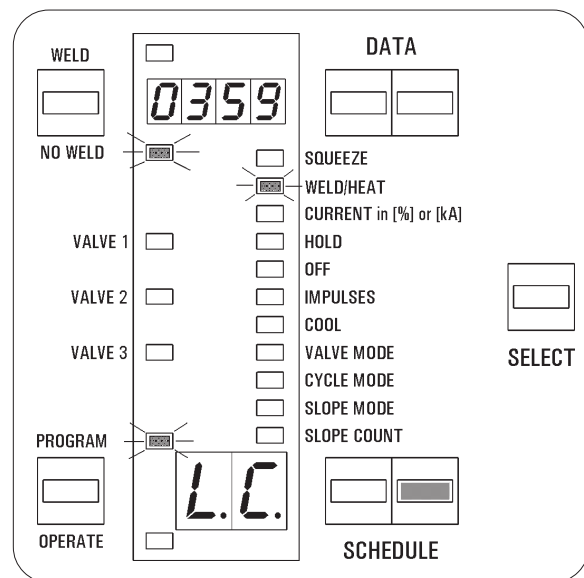

Figure 7-5. Program LAST COUNT
5. Program the desired LAST COUNT for this stepper; e.g., for stepper **A**, LAST COUNT may be any number from **0000** to **9999**, as shown in Figure 7-5. In fact, this value will be first count at beginning of the weld sequence. This value will be reset or reprogrammed after resetting the stepper.